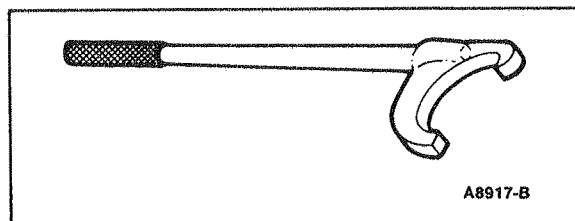

Figure 5 T83T-9000-C Injection Pump
3. Install rotating Tool T83T-9000-C (Fig. 5), on front of pump and rotate injection pump to align timing mark on injection pump mounting flange with timing mark on pump mounting adapter, to within  $\pm 0.030$  inch.